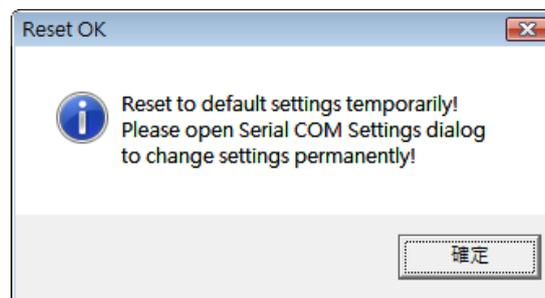

Fig. 3-7: Reset to default settings temporarily.
- (1) Connect PC to the RS-232 port of IR-712 and click “Open” button in the utility to open the COM port of PC.
- (2) Click Reset button within 3 seconds after cycling the power of IR-712.
- (3) A dialog as Fig. 3-7 shows that the resetting to default values is done. Notice that the parameters resetting is temporary. Please go to “IR-712 Basic Settings” interface and click “Set Permanently” button to retain the settings.